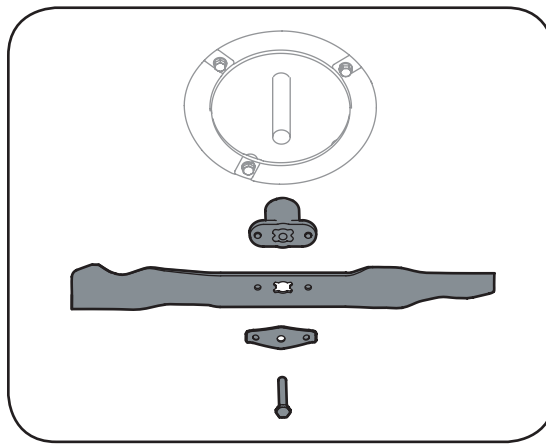

Figure 5-3: Remove the bolt, support, blade, and adapter to access the blade and underside components.
2. Remove bolt, blade bell support, blade, and adapter from the engine crankshaft. See Figure 5-3.
4. Remove blade, adapter, and related hardware as instructed under "Blade Care" above. See Figure 5-3.